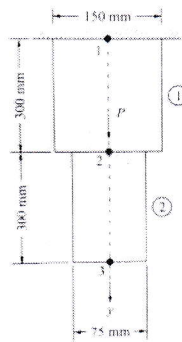

Figure 1
2. A thin steel plate having two elements is subjected to a load, $P = 500\text{ N}$ at node-2 as shown in figure 1 the thickness of the plate is 10 mm. $E = 200\text{ GPa}$ and weight density = 7850 kg/m^3 . Determine nodal displacements and element stresses using penalty approach. [15]